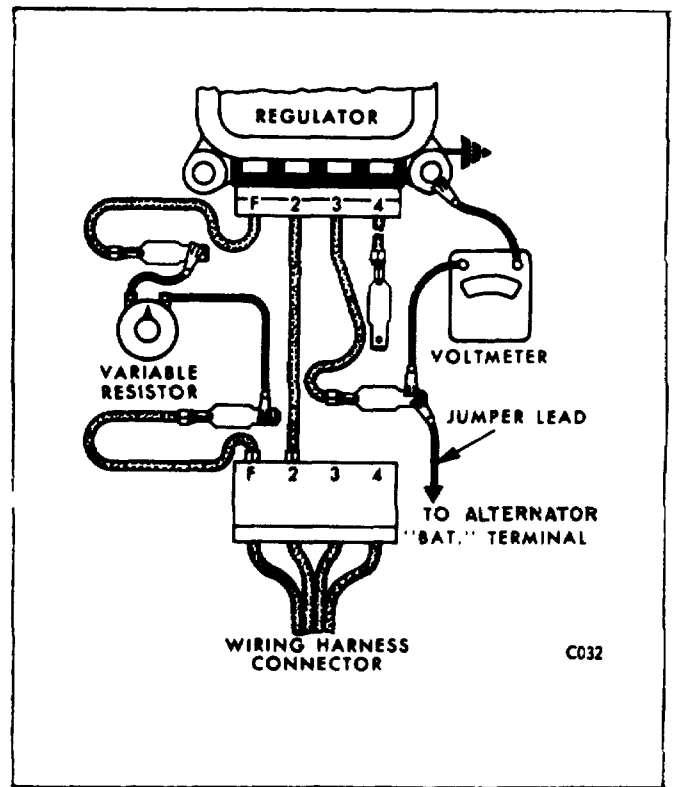

Figure 23.
b. Make connections to the adapter as shown in Figure 23. Use a 25 ohm 25 watt variable resistor in series with the alternator field winding at the regulator "F" terminal, and connect a jumper lead from the adapter to the alternator "BAT" terminal as shown.